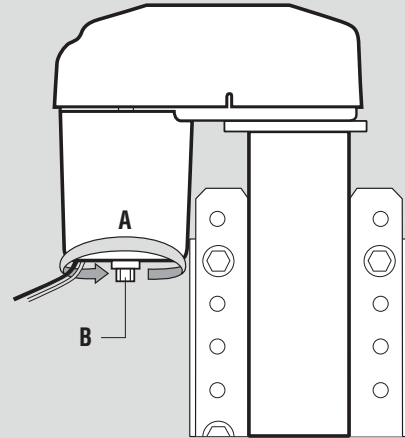

Figure 10 — Manual Override
- To Manually Extend or Retract Leveler, use a 1/2" socket on Drive Nut on the end of the motor (FIG 10-A). Rotate nut counter clockwise (looking from bottom end of nut [FIG 10-B]) to extend leveler.